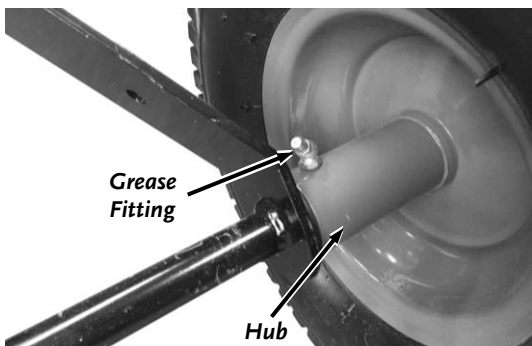

Figure 7
8. Grease the Fittings on the Wheel Hubs with a Grease Gun only until Grease starts coming out of the Hub (**Figure 7**).